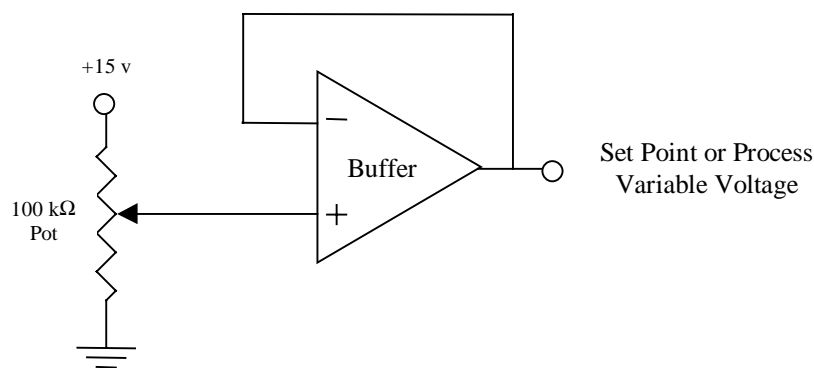
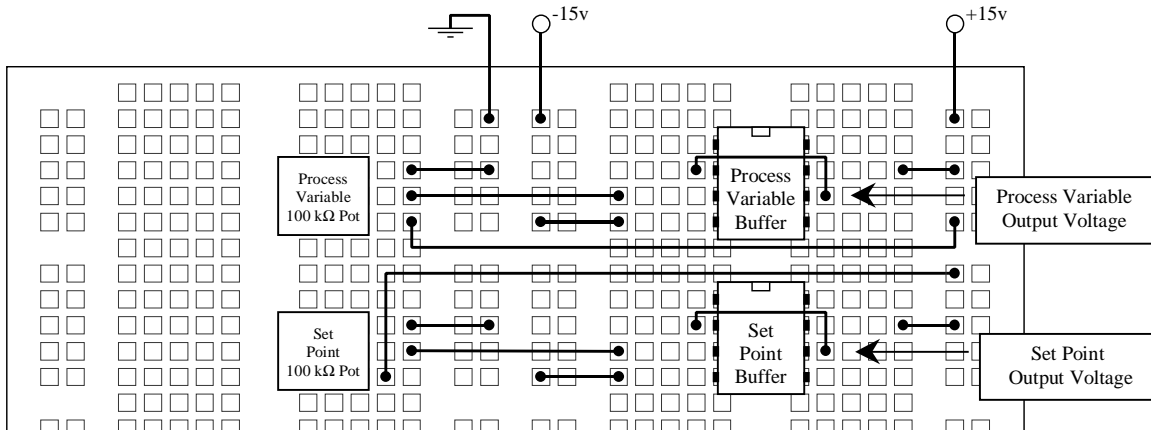

Figure 16a: Circuit diagram for set point and process variable
Figure 16b: Component positions for process variable and set point
The circuit diagram for the set point and process variable are shown in Figs. 16a-b. You now follow a step by step procedure for placing the components on the breadboard (see Fig. 16b).
1. Place two 100k Ω pots in the bank of horizontal rows to the left of the op amps such that the “top” of each pot is on the right side. Then, connect the pots as a voltage dividers (between 0 and +15 volts) as shown in Figs. 16a-b. This will allow the pots to control the voltage output of the set point and process variable.
2. Now, use jumper wires to set up each of the first two op amps as buffers (also shown in Figs. 16a-b).